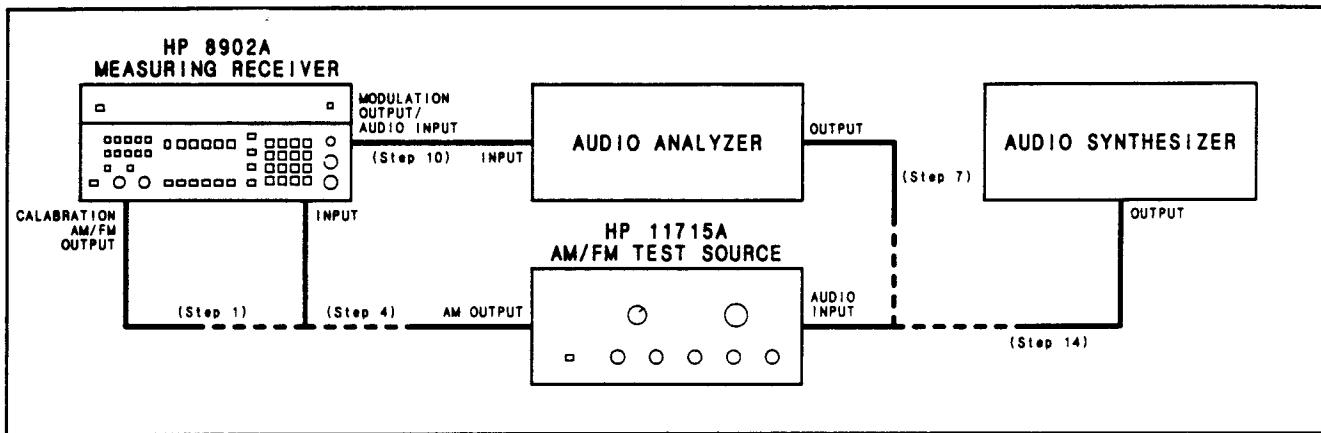

Figure 4-1. AM Performance Test Setup
4. On the AM/FM test source, set the test mode switch to AM. Connect the test source AM output to the Measuring Receiver's INPUT. (See Figure 4-1. Nothing should be connected to the test source's audio input.)
7. Set the audio analyzer's oscillator to 20 kHz. Connect its output to the audio input of the AM/FM test source. (See Figure 4-1.)
10. Connect the audio analyzer's input to the Measuring Receiver's MODULATION OUTPUT/AUDIO INPUT. (See Figure 4-1.) Set the audio analyzer to measure the distortion on the 20 kHz signal at the MODULATION OUTPUT/AUDIO INPUT with 80 kHz of low-pass filtering (on the audio analyzer). The distortion should be 0.3% or less (-50 dB or less).
Set the multifunction synthesizer to 1 kHz at +1 dBm. Connect its output to the audio input of the AM/FM test source. (See Figure 4-1.) Fine adjust the audio synthesizer level for a Measuring Receiver display of 80% AM.